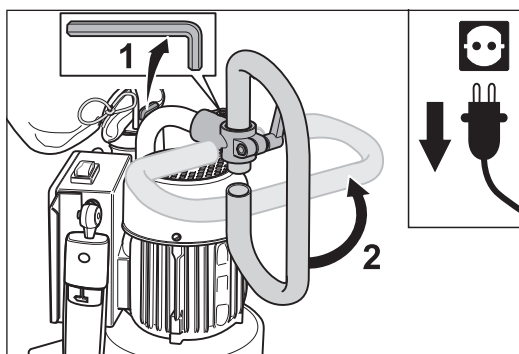

Fig. 20 Undo the screw on the angle clamping connector (1) and rotate the angle clamping connector by 90° (2).
- 3 Use the enclosed Allen key to undo the screw on the angle clamping connector of the pipe bend and then rotate the angle clamping connector by 90° (fig. 20).